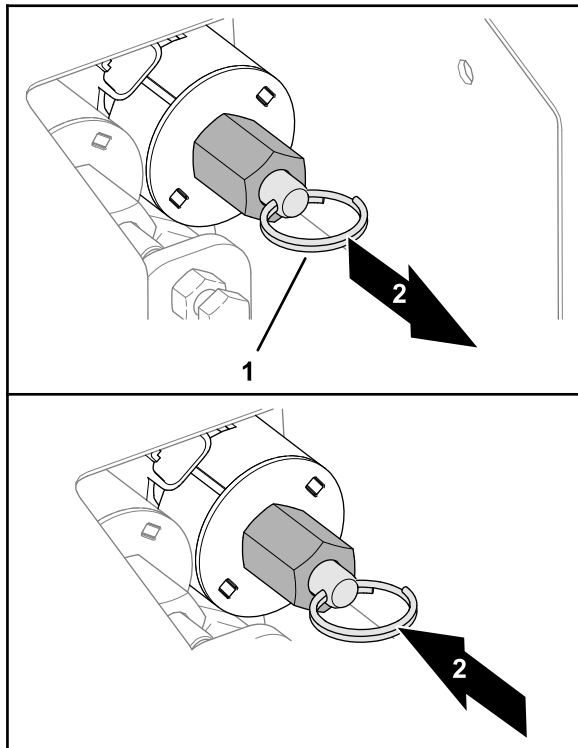

Figure 31
- To lower the hopper (Figure 31), pull the ring on the valve stem.
- To raise the hopper (Figure 31), push the split ring on the valve stem.